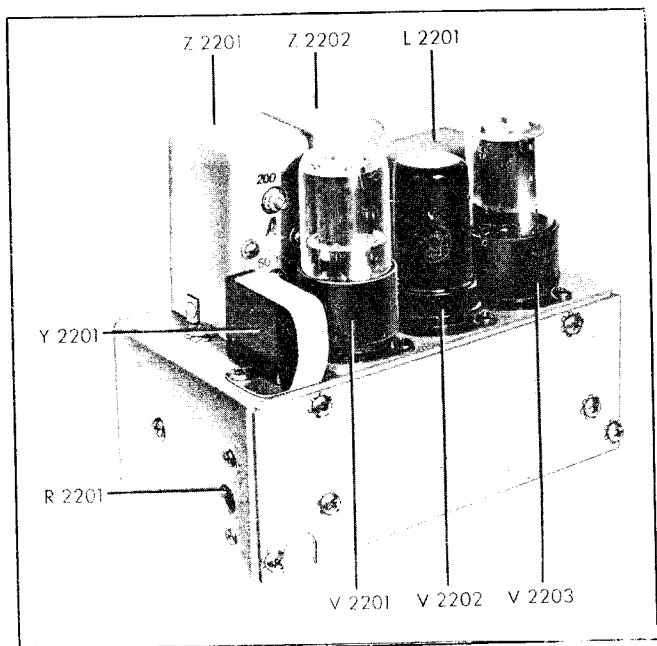

Figure 5-10. MCW-CFI Unit — Top View
(1) Extend the length of wire and twist it to form a "twisted-pair." Leave a loop at the far end of the lead so that the loop can be placed over a tube on the CFI unit.
(2) Place loop of wire over tube V2201 on CFI unit.
(3) Connect the output of a stable local 200 Kc oscillator to the horizontal deflecting plates of the oscilloscope. Local 200 Kc oscillator must have been checked recently against a U.S. Bureau of Standards transmission to insure frequency accuracy.
(4) Turn on oscilloscope.
(5) Insert a small "jeweler's" type screw driver in the slot of inductor Z2201A tuning slug adjustment screw (see fig. 5-10) adjacent to which is stamped number "200." Rotate this screw and observe reading of vacuum tube voltmeter. As 200 Kc crystal oscillator circuit approaches resonance, the meter reading will increase. It will be noted that the tuning is very broad after the meter has reached its peak reading. Final adjustment of the tuning slug position is now made by observing pattern on oscilloscope screen.
(6) Continue to adjust tuning slug in inductor Z2201A until pattern on oscilloscope forms a staple ellipse or circular shape. When this occurs, the frequency of the 200 Kc crystal oscillator in the CFI unit is identically the same as the frequency of the local oscillator which was previously set to 200 Kc and ac-
(1) Connect a pair of earphones to SIDETONE jack on transmitter.
(2) Insert a small "jeweler's" type screw driver in the slot of inductor Z2201A tuning slug adjustment screw (see fig. 5-10) adjacent to which is stamped the number "200." Rotate the screw and observe the reading of the vacuum tube voltmeter. As the crystal oscillator circuit approaches resonance, the meter reading will increase. It will be noted that the tuning is very "broad" and that tuning slug for inductor Z2201A may be adjusted over a considerable range without appreciably changing the peak reading of the meter. Note the number of turns of the tuning slug that can be made without changing peak meter reading. By continuing to turn the tuning slug half this number of turns after the meter just approaches peak reading, it will be possible to set the tuning slug to the approximate center of the broad resonance peak. This adjustment must be made to set the tuning slug correctly.
(3) The peak reading obtained on the meter in the previous operation indicates maximum crystal activity and proper operation of the crystal oscillator circuit. If a loud squeaking rush noise is heard in the headphones as soon as the crystal oscillator functions, adjust tuning slug (stamped "150") in inductor Z2202A until this noise disappears.
(4) Quiet operation, arrived at by the foregoing checks and adjustments, indicates correct operation and calibration beat signals may be searched for by rotating Control "B."
(5) Tune the h-f oscillator by rotating control "B" until two approximately equal level loud signals are heard.
(6) Compare the zero beat dial settings of the two selected beat points with the calibration table check points to determine if the interval between the points is 100 Kc, (oscillator frequency is doubled on range 1 causing 50 Kc interval of CFI output to be recorded at 100 Kc).
(7) If the interval is correct and the dial readings correspond reasonably (within 25 dial divisions) with the calibration table, tune Z2201B (farthest from crystal) marked "50," tune Z2202B (nearest crystal) marked "50," and tune Z2202A (marked "150") for maximum sidetone output. Recheck tuning in the same order. If interval is less than 100 Kc, see paragraph 6c(10), this section. If interval is greater than 100 Kc, see paragraph 6c(11), this section.
(8) Recheck adjustment of Z2201A (marked "200") to determine the setting which is the midpoint of the range in which the vacuum tube voltmeter reading is a maximum.
(9) Turn the transmitter on and off several times, noting whether the crystal oscillates positively (vacuum tube voltmeter rises to peak reading) as soon as the transmitter is turned on. Detune Z2201A (marked "200") slightly to improve crystal starting if necessary.
(10) If less than a 100 Kc interval is obtained, rotate mixer tank Z2202B adjustment screw clockwise
(1) Remove the transmitter cabinet cover, the autotune cover plate, and the wrap-around section of the right-hand end of the transmitter cabinet.
(2) Remove the snap button from the side of the chassis of the MCW-CFI unit. (See fig. 5-10).
(3) Tune the transmitter into a phantom antenna (Antenna A-58 if available) on 2400 Kc. Load the power amplifier to exactly 100 on the P.A. PLATE meter in the transmitter when using CW transmission.
(4) Place the EMISSION selector switch on the MCW position, and, while holding the TEST switch closed, adjust resistor R2201 until the plate meter reads 190.